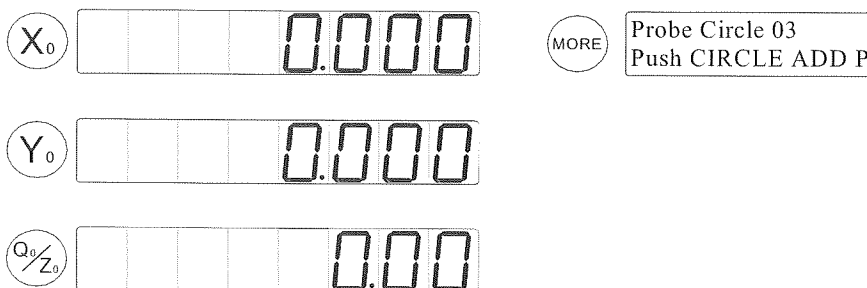

Figure 3-9
15. Press the  key. The messages the and current location are displayed as in figure 3-9.